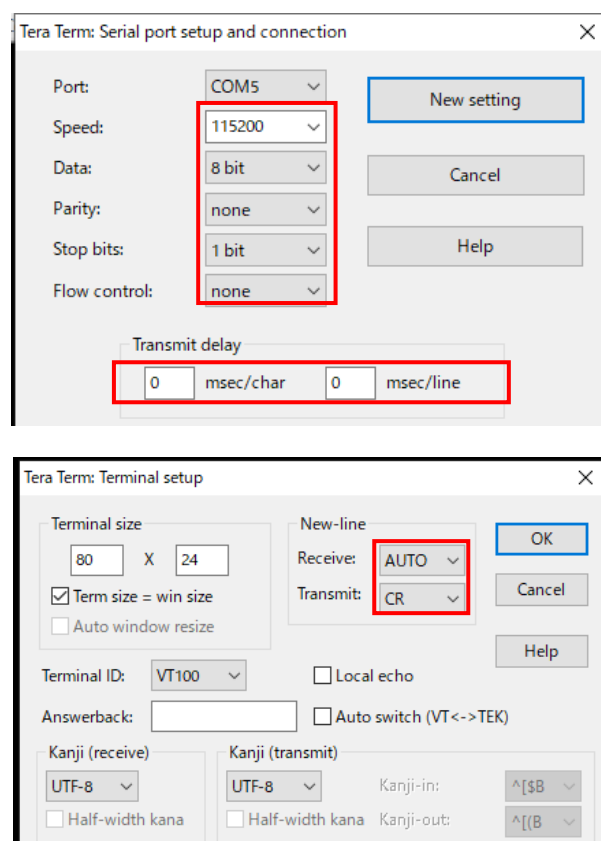

Figure 2.2-1 Settings of Tera Term
3. Connect CN5 of V2MEVK and the Windows PC with a USB cable (standard-A-micro-B) and start Tera Term. See **Figure 2.2-1** for Tera Term settings.
Note: Figure 2.2-1 shows the configuration for RZ/V2M Linux Package Ver1.2. If you will be using a different version, refer to the RZ/V2M Linux Package Startup Guide for that version.